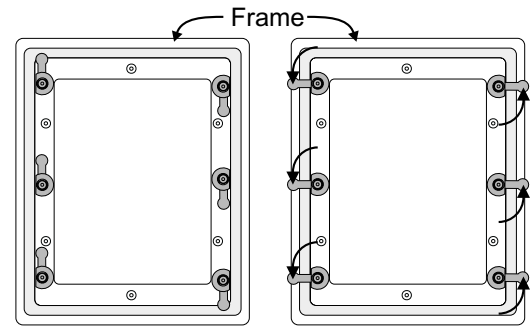

fig.7
6. Now install the frame. The frame attaches to the wall (or iWB bracket) via six plastic mounting clamps on the back of the frame that swivel to "sandwich" the drywall between the speaker assembly and the clamps (**fig.7**). First rotate the mounting clamps inward so that the body of the frame assembly can slide through the wall. Tighten the screws snugly, making sure not to over tighten, as this may compromise the fit of the frame. The gasket on the drywall side of the frame reduces unwanted vibrations against the drywall and will compress slightly to allow the frames lip to rest flush against the wall. The spring loaded mounting clamps provide tension once installed.